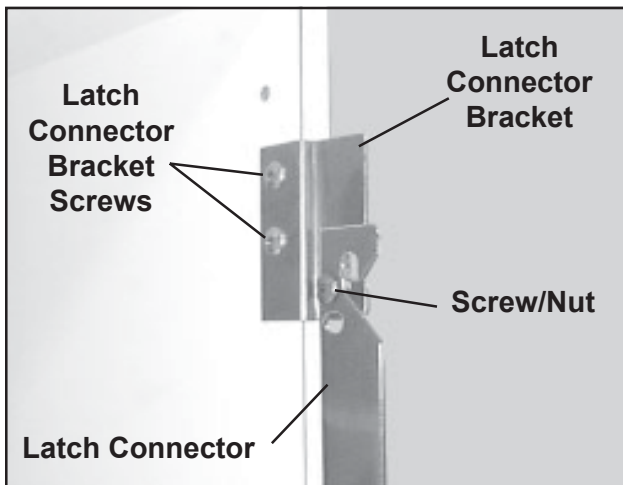

Figure 44. Top Latch Connector Bracket & Latch Connector (Bottom Similar)
2. With a Phillips screwdriver and a 7/16 in. wrench, remove the screw/nut that holds the latch connector to the latch connector bracket to be replaced (Figure 44).